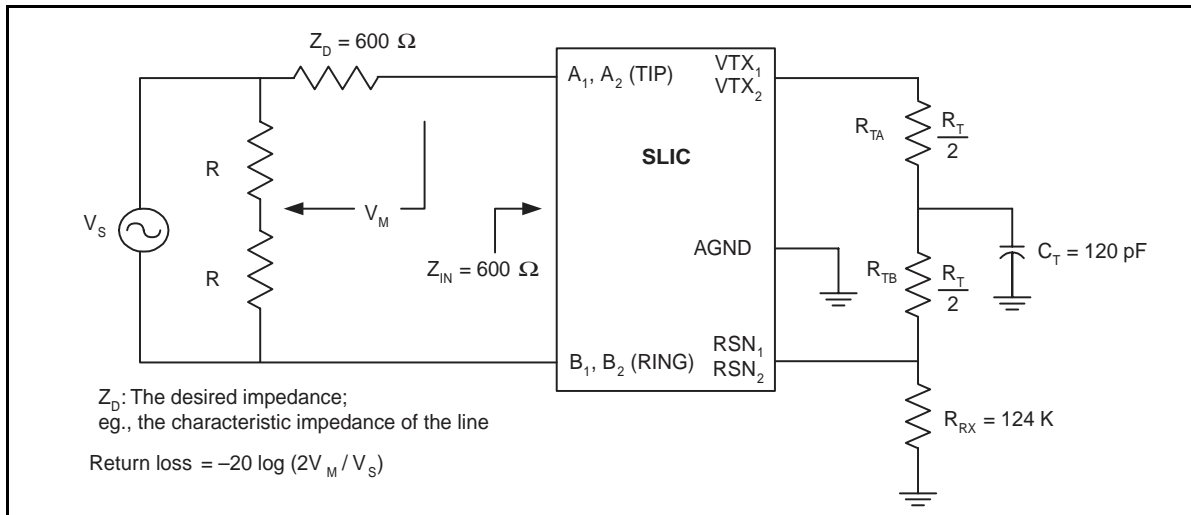

Figure 6 - Two-Wire Return Loss Test Circuit
- Group delay can be greatly reduced by using a  $Z_T$  network such as that shown in Figure 6. The network reduces the group delay to less than  $2 \mu s$  and increases 2WRL. The effect of group delay on linecard performance also may be compensated by synthesizing complex impedance with the QLSLAC™ device.